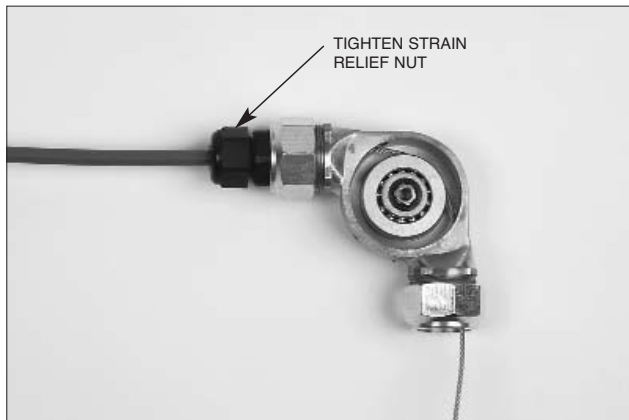

FIGURE 63
- Tighten the strain relief nut onto the strain relief. See Figure 63.